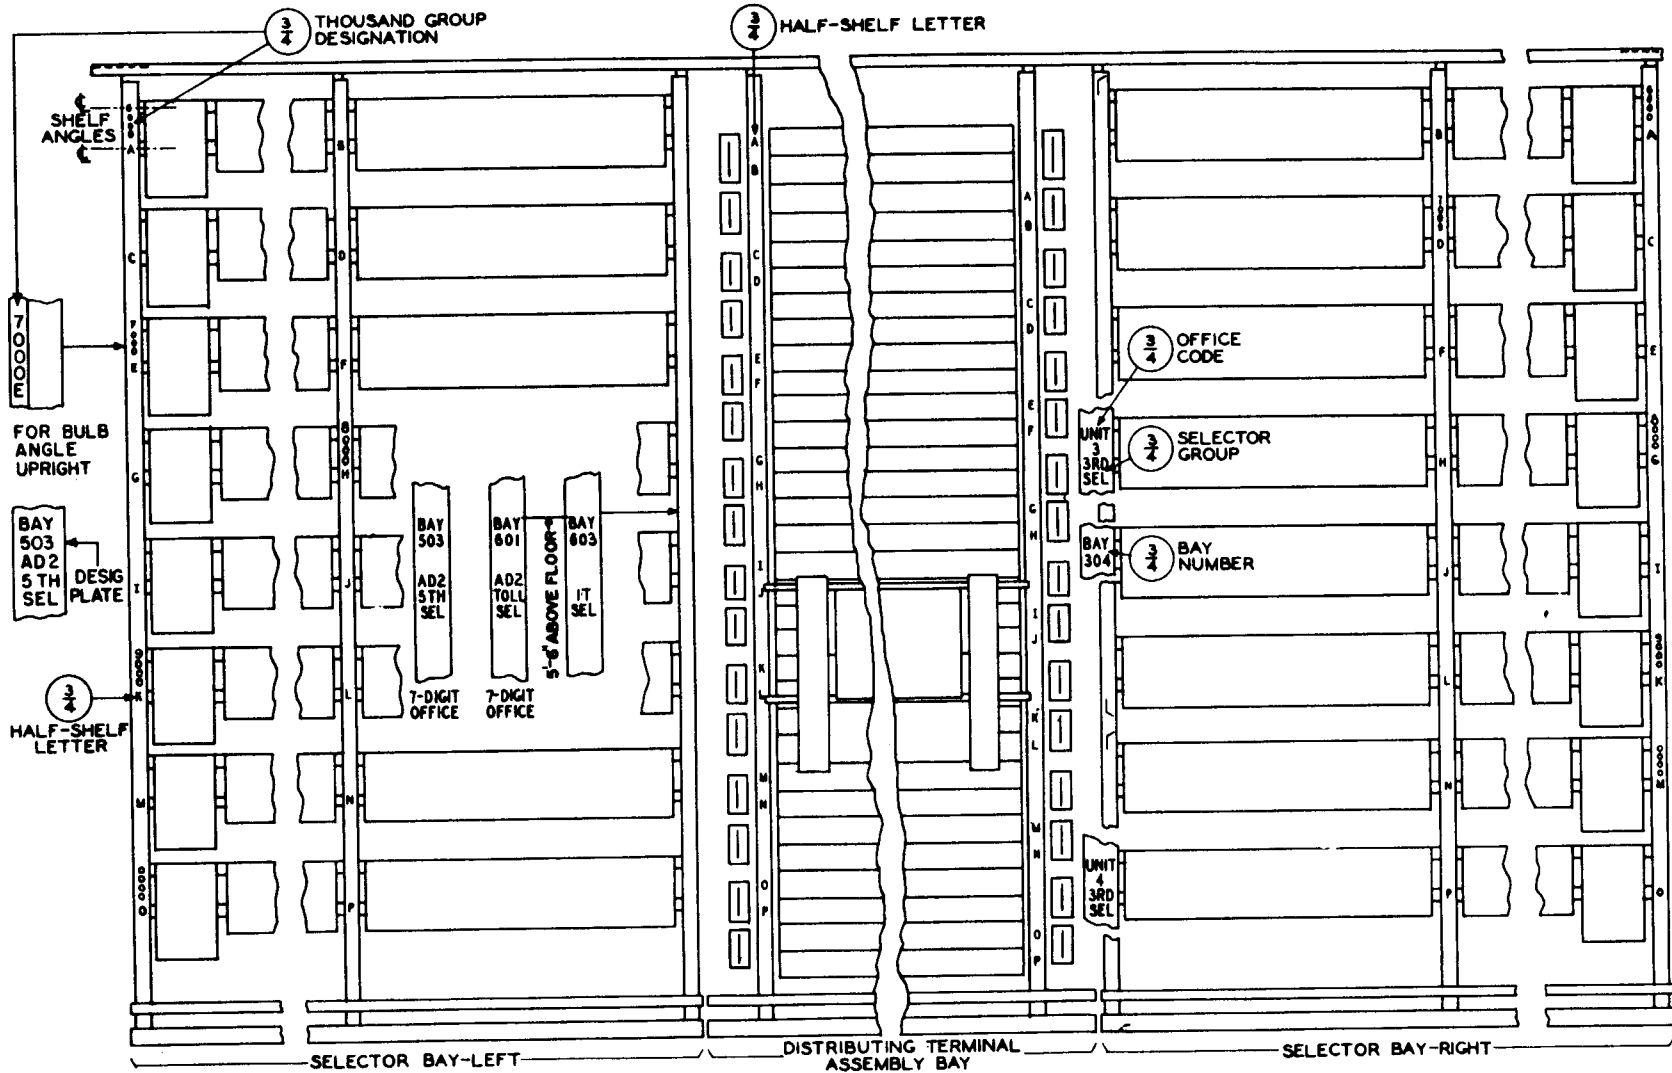
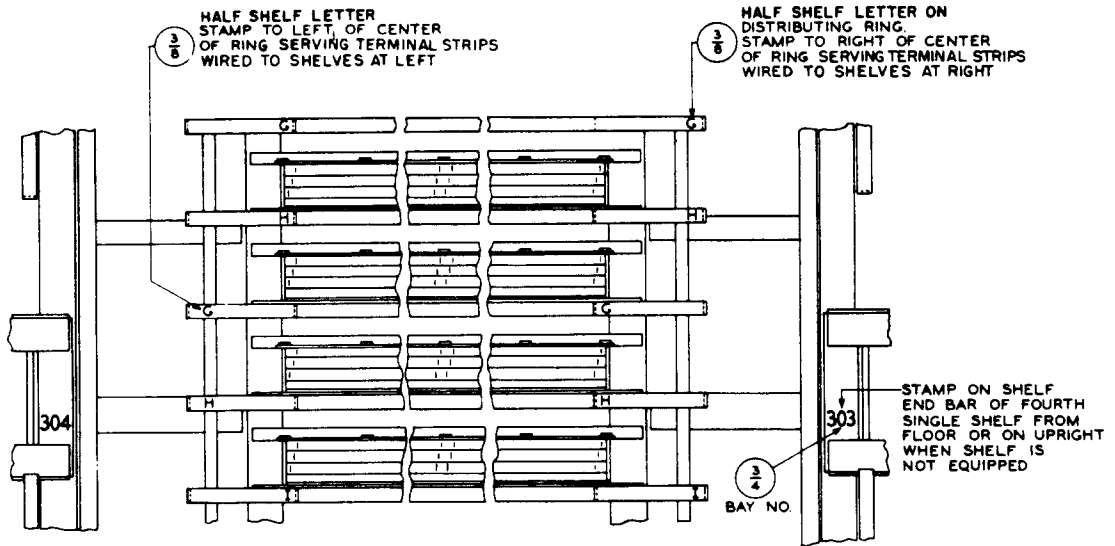
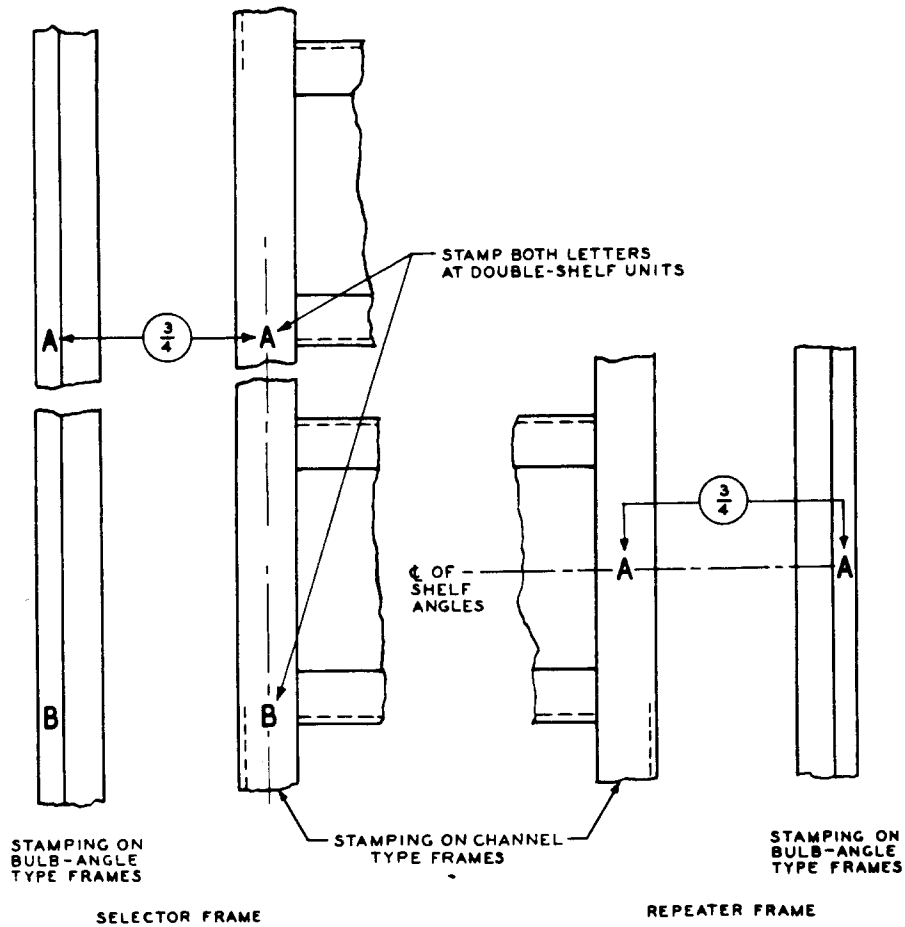

Fig. 28 - Designations on Front of Step-by-Step Selector Frames With Distributing Terminal Assembly
Fig. 29 - Designations on Rear of Step-by-Step Selector Frames With Distributing Terminal Assembly
Fig. 30 - Shelf Letters on Step-by-Step Frames
tions shall be stamped on designation plates. (See Fig. 28.)
(b) In addition, *on the rear of selector frames with distributing terminal assemblies*, the bay number only shall be stamped for each bay. This stamping shall be placed on the shelf end bar adjacent to the distributing terminal assembly bay on the fourth single-shelf position from the floor as shown in Fig. 29. If this shelf is not equipped, the designation shall be stamped on the bay upright in the same location.
(b) When the unit designation does not apply to all of the shelves in the bay, it shall be stamped opposite the middle of the group of shelves to which it applies and the units indicated by brackets. When applicable to only one shelf, brackets are not required. (See Fig. 28.)
(b) When the selector group designation *does not apply to all selectors* in the bay, stamp opposite the middle of the group of shelves to which it applies and use brackets to indicate the extent of the group. When applicable to only one shelf, brackets are not required. (See Fig. 28.)
at the top and proceeding left to right on a left selector bay and right to left on a right selector bay facing the front of the frame. Shelf letters shall be stamped on the front of the right frame upright at each shelf position on repeater frames, while on selector frames without distributing terminal assembly, they shall be stamped on the front of the left frame upright at each shelf position. (See Fig. 30.) On selector frames with distributing terminal assembly, half-shelf letters shall be stamped on the front of the frame upright at the left of each half-shelf position in the left selector bay and on the front of the frame upright at the right of each half-shelf position in the right selector bay. (See Fig. 28.)
2.44 On the distributing terminal assembly bay, stamp associated half-shelf letters applying to the bank terminal strips on the fronts of the left and right uprights, as shown in Fig. 28. On the rear of the bay, stamp the half-shelf letter on each distributing ring (whether corresponding bank terminal strip is furnished or not), as shown in Fig. 29. This applies, whether the bay is equipped with single- or double-shelf equipment.
- (b) **On selector frames with a distributing terminal assembly,** stamp on the front of the left upright on bays at the left of the distributing terminal assembly and on the front of the right upright on bays at the right of the distributing terminal assembly, opposite the first half shelf in each group on each bay, as shown in Fig. 28.